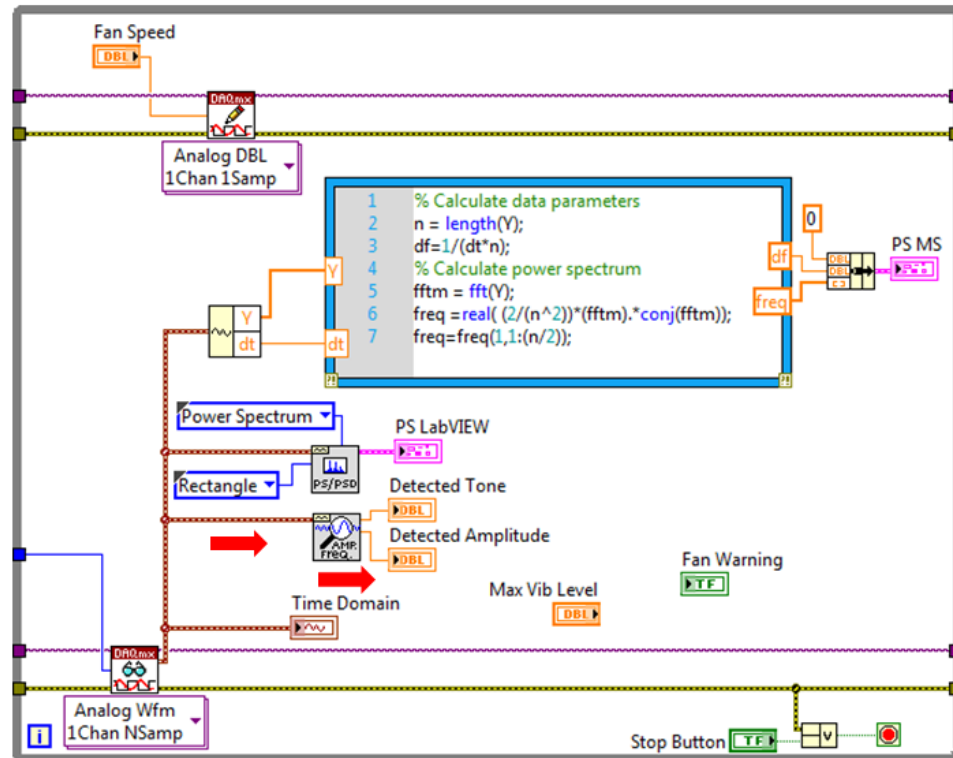

Figure 49. Wire the time domain waveform to the Extract Tone VI to pull the frequency and amplitude of the highest power tone.
3. Place the VI in the location shown in Figure 49 and wire the inputs and outputs as shown. If you need help figuring out the different inputs, remember that Ctrl+h will show the Context Help to provide you with a reminder.